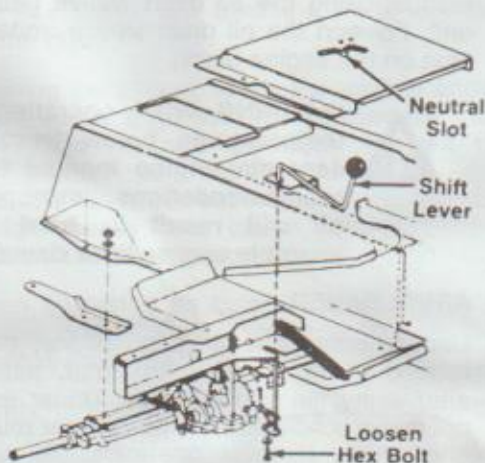

FIGURE 15
2. Loosen the bolt which secures the shift lever assembly to the shift lever link. See figure 15.
3. Place the shift lever in the neutral slot. See figure 15.